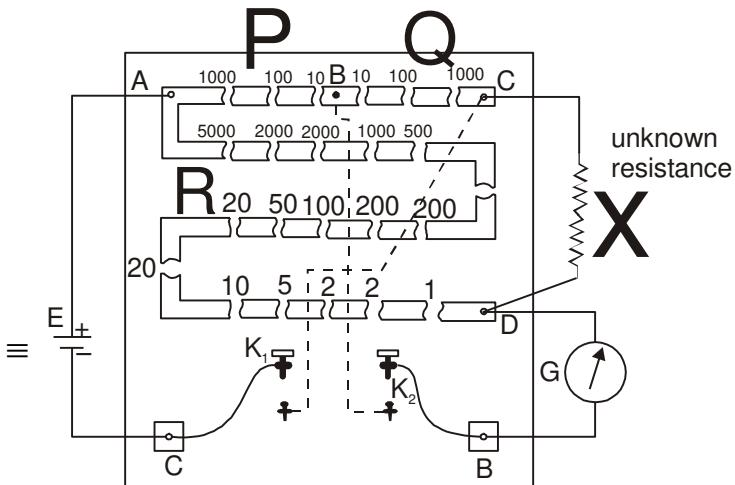

Figure-2
- (A) If both Assertion and Reason are true and the Reason is a correct explanation of Assertion.
- (B) If both Assertion and Reason are true but Reason is not a correct explanation of Assertion.
- (C) If Assertion is true but Reason is false.
- (D) If both Assertion and Reason are false.
**Answer :** (A)
**Example 75.** What is the maximum and minimum possible resistance, which can be determined using the PO Box shown in above figure-2
- (A)  $1111 \text{ k}\Omega$ ,  $0.1 \Omega$
- (B)  $1111 \text{ k}\Omega$ ,  $0.01 \Omega$
- (C)  $1111 \text{ k}\Omega$ ,  $0.001 \Omega$
- (D) None of these
**Answer :** (B)
**Solution :**  $X = \frac{Q}{P} R \Rightarrow (X)_{\max} = \frac{(Q)_{\max}}{(P)_{\min}} (R)_{\max} = \frac{1000}{10} (11110) = 1111 \text{ k}\Omega$